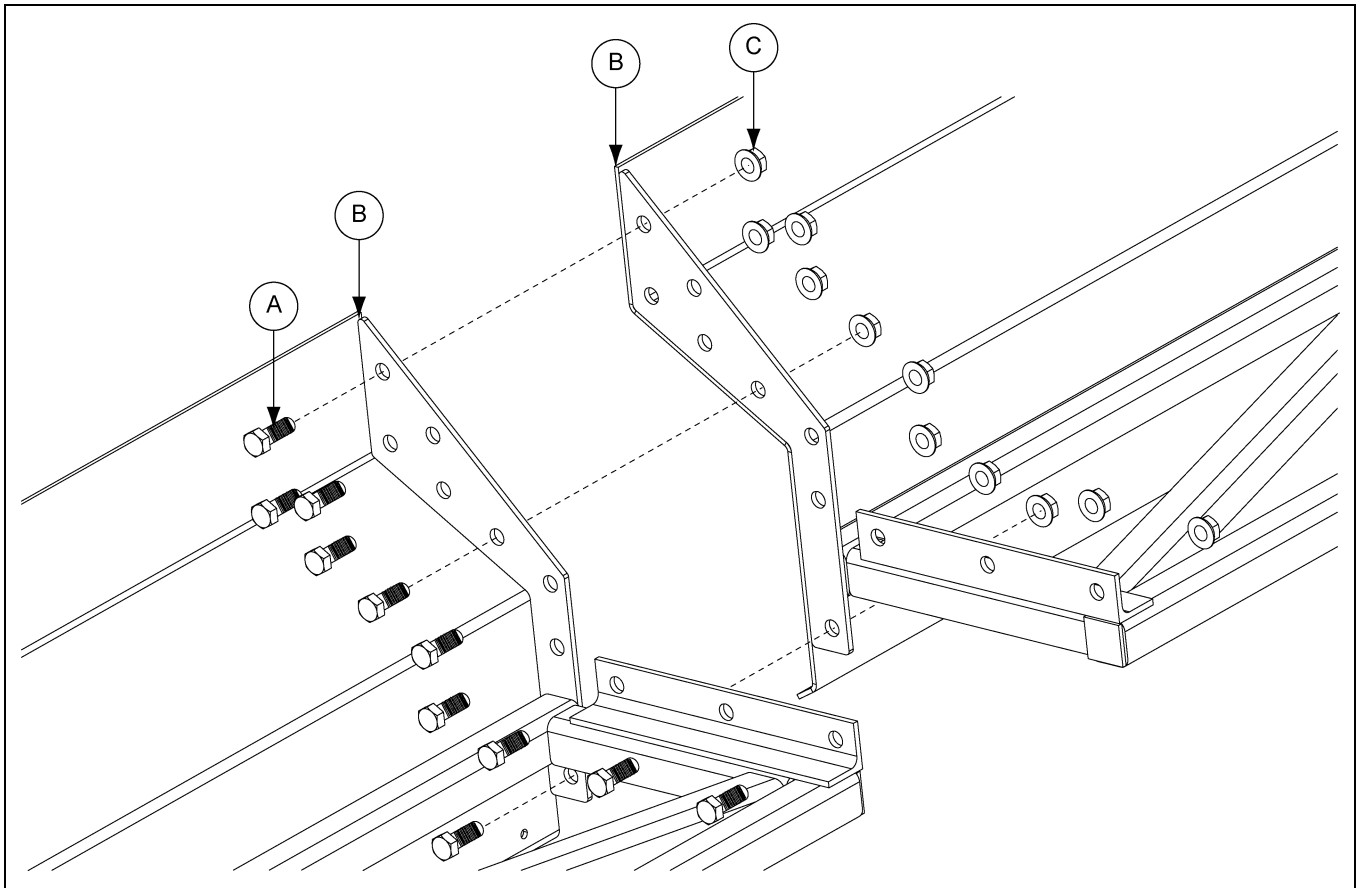

Figure 7E 12" Sweep Shield Connection
1. Attach sweep shields (B) together using hex bolts (A) and flange nuts (C). (See Figure 7E.)